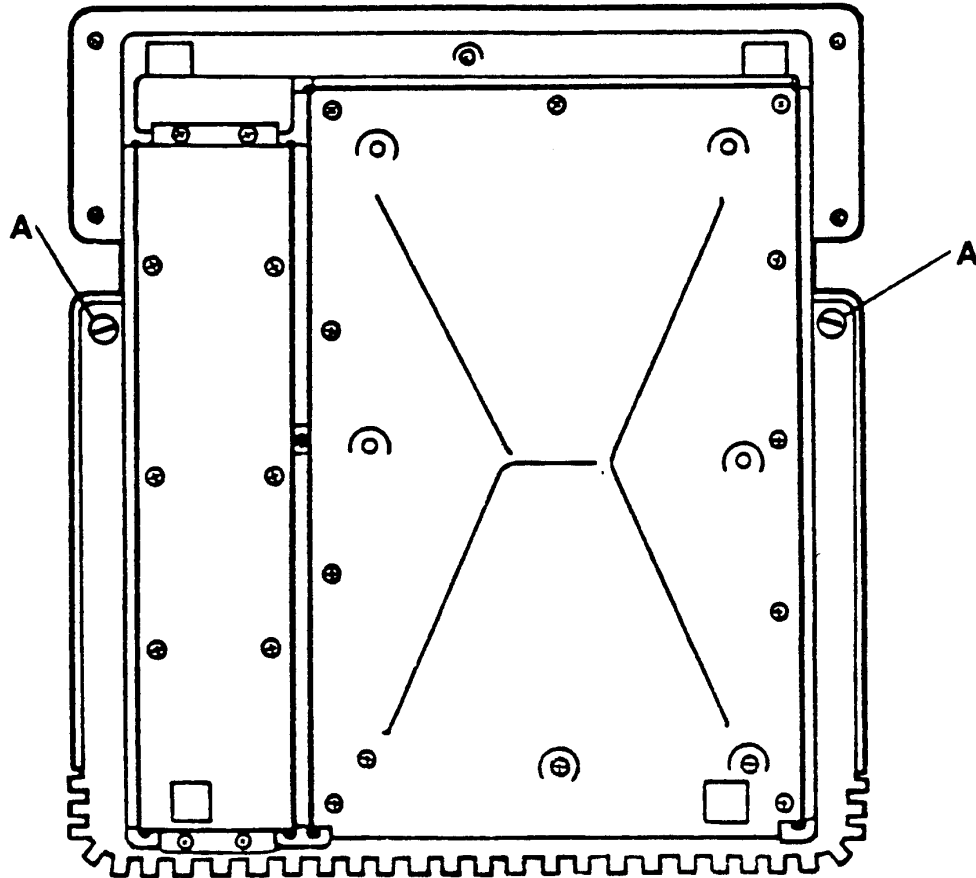

FIGURE 1.2
4. Locate the 1/4 turn locking screw on each side of the Apple and, with a flat blade screw driver, turn each one 1/4 turn counterclockwise to loosen. Do not attempt to remove these screws as they are self capturing and will not normally come out. Refer to Figure 1.2 item A.